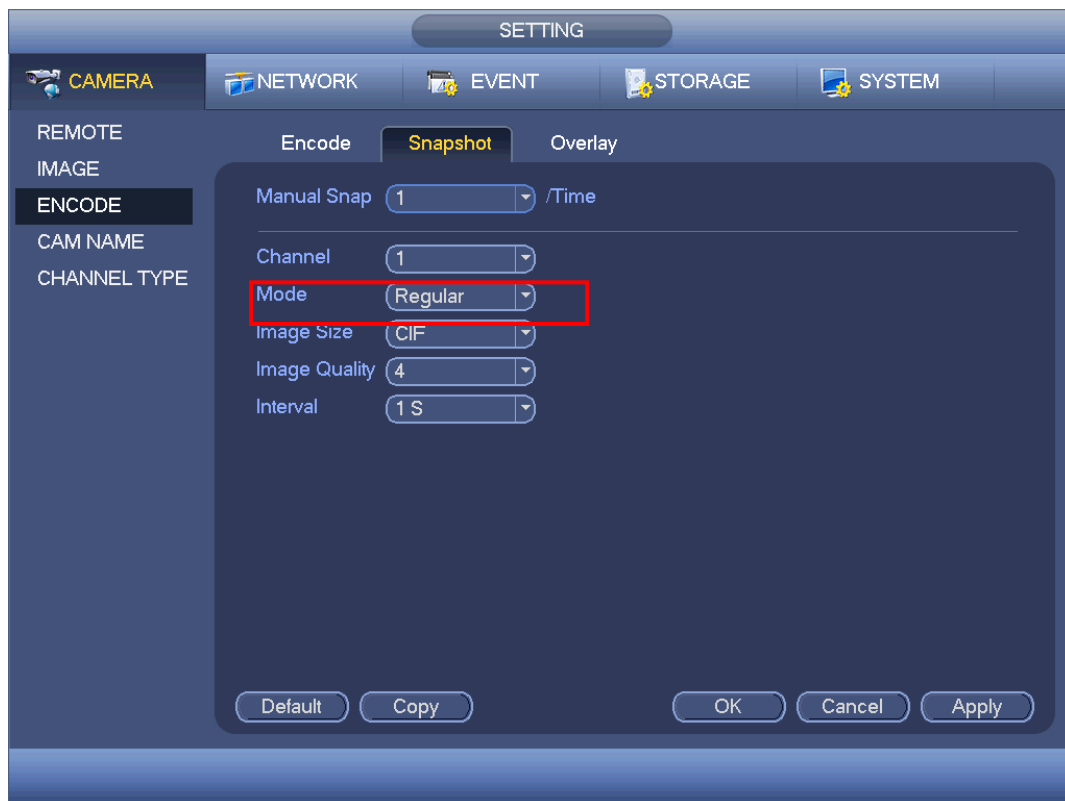

Figure 4-145
- In main menu, from Setting->Camera->Encode->Snapshot interface, here you can input snapshot mode as regular, size, quality and frequency. See Figure 4-145.